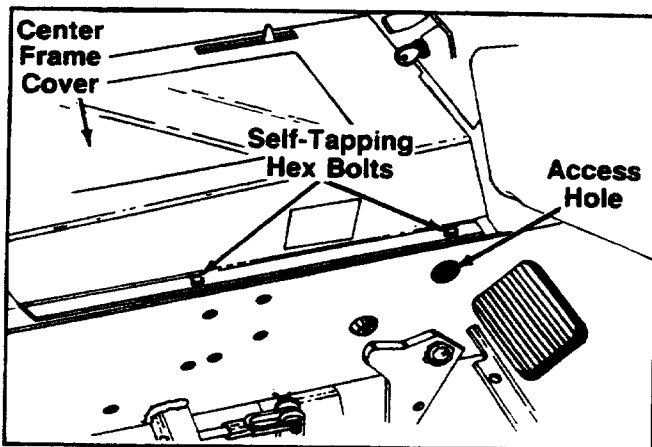

FIGURE 7.
1. Lower the tractor lift to full down position. Check access hole to make sure headed pin $1/2 \times 1.50''$ can be removed in step 30. See figure 7.
13. Remove the four self-tapping hex bolts holding the center frame cover. See figure 7.